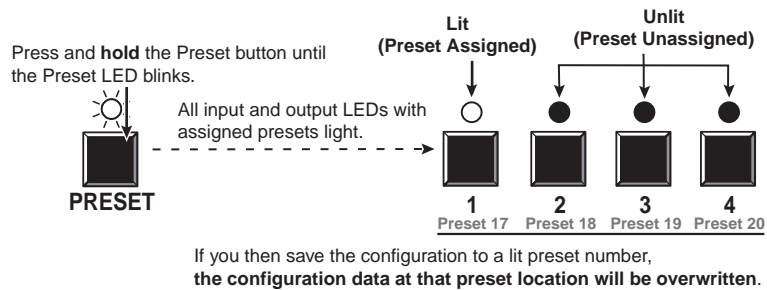

Figure 3-34 — Enter Save Preset mode
2. Press and **hold** the Preset button for approximately 2 seconds until the Preset LED blinks (figure 3-34).